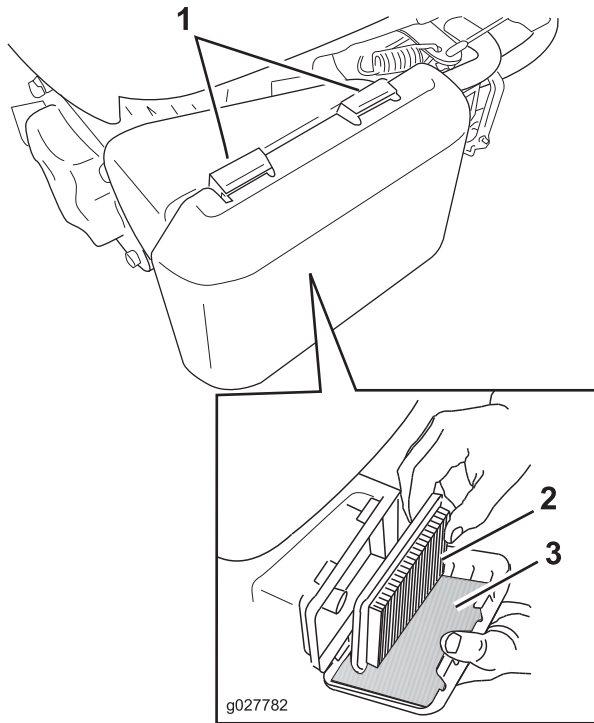

Figure 22
1. Press down on the latch tabs on top of the air cleaner cover (Figure 22).
3. Remove the paper air filter and the foam pre-filter (Figure 22).